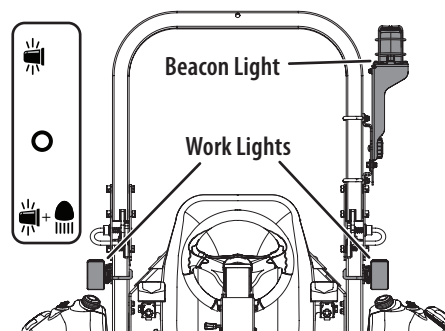

Fig. 25
- Beacon Light and Work Lights ON (left position) (Fig. 25).